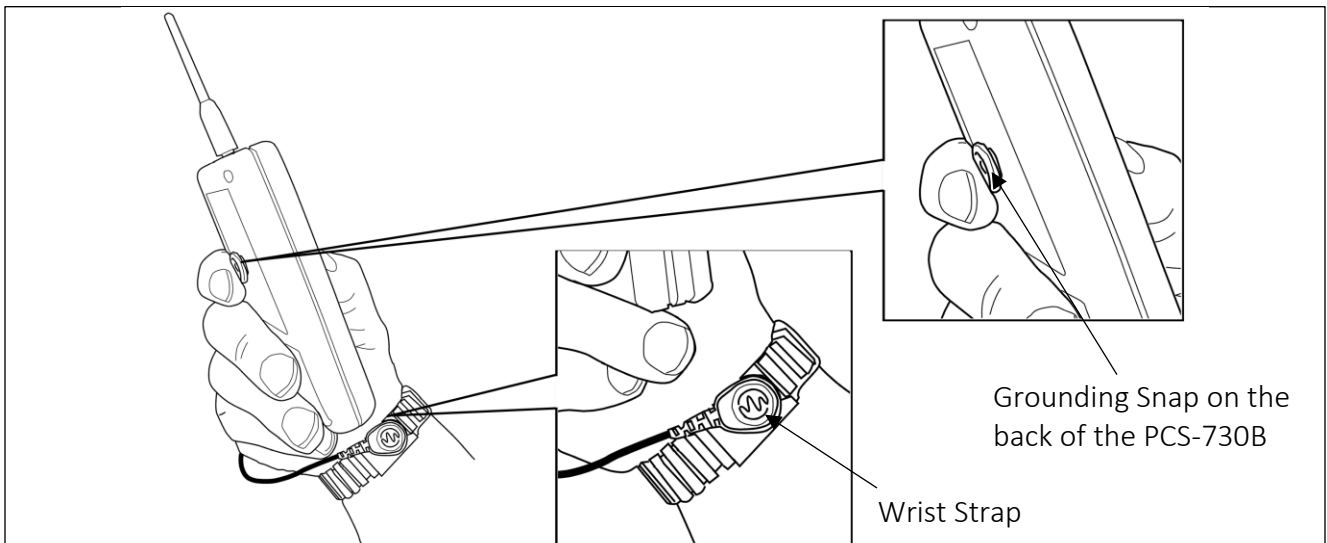

Figure 7. Operator properly grounded to use the PCS-730B
7. With the operator's fingers contacting the metal grounding snap on the back of the PCS-730B Charging Source (Figure 7), press the - button switch (-1kV). Touch the tip of the charging wand directly to the upper sensing plate of the CPM-720B Charge Plate Assembly and charge the CPM-720B to approximately - 1.25kV  $\pm$ 5%.